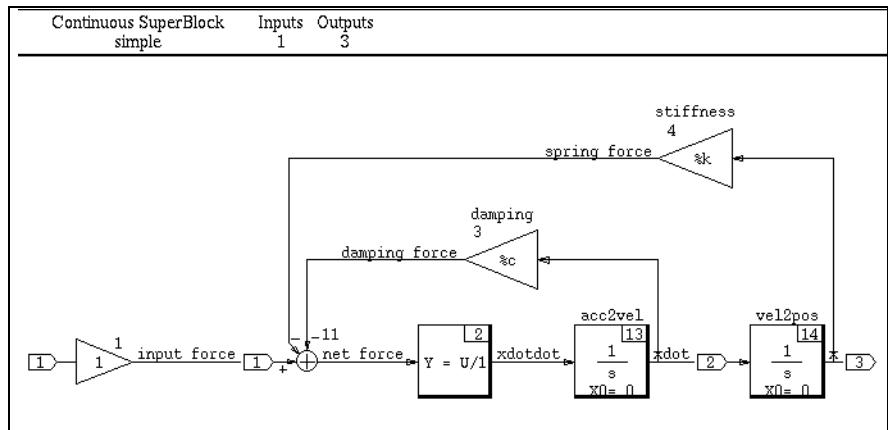
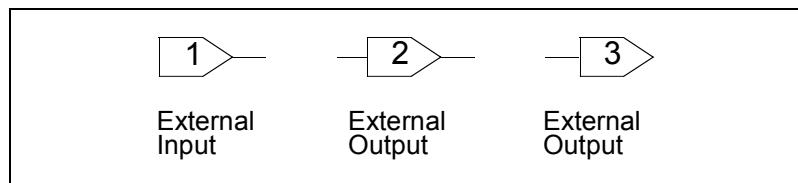

Figure 4-15. Spring-Mass Damper Block Diagram
Figure 4-22. External I/O Flags from Spring-Mass Damper Model
The block diagram for this model appears in Figure 4-15.
4. Continue to connect the blocks as shown in Figure 4-15.
The spring-mass damper model (see Figure 4-15) has one external input and three external outputs in the tutorial. Figure 4-22 shows some of the external I/O flags from this model. Notice that there is only one way to represent an external input connection, while there are two possible ways to represent an external output connection. The flag shown for external output 2 indicates that the same block output is connected to an external output and to another block.